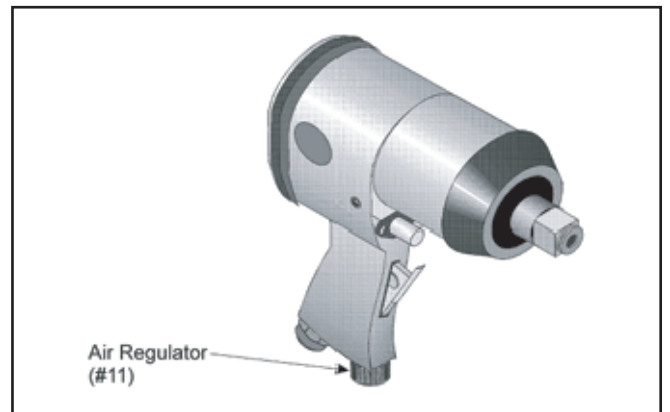

Figure 8- Adjusting the Reverse Power Setting
- *! Select the power setting for Loosening by pushing in and turning the Air Regulator (#11) located on the bottom of the Impact Wrench as shown in Figure 8. When the Air Regulator is completely screwed in it is at its lowest setting. Air pressure increases as you push in and turn the Air Regulator.